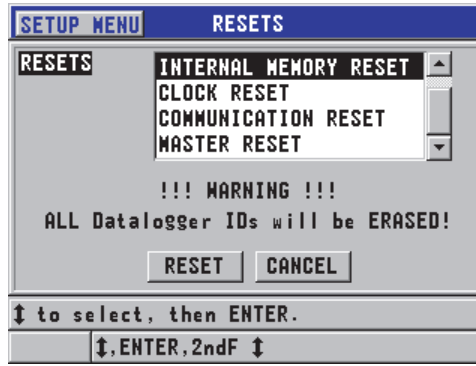

Figure 6-33 Warning message when resetting measurements
2. In the **RESETS** screen (see Figure 6-33 on page 114):